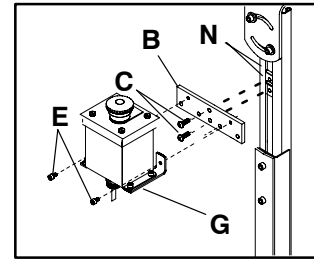

Figure 11
1. Install two Spring Nuts (N of Figure 11) into Leg slot.